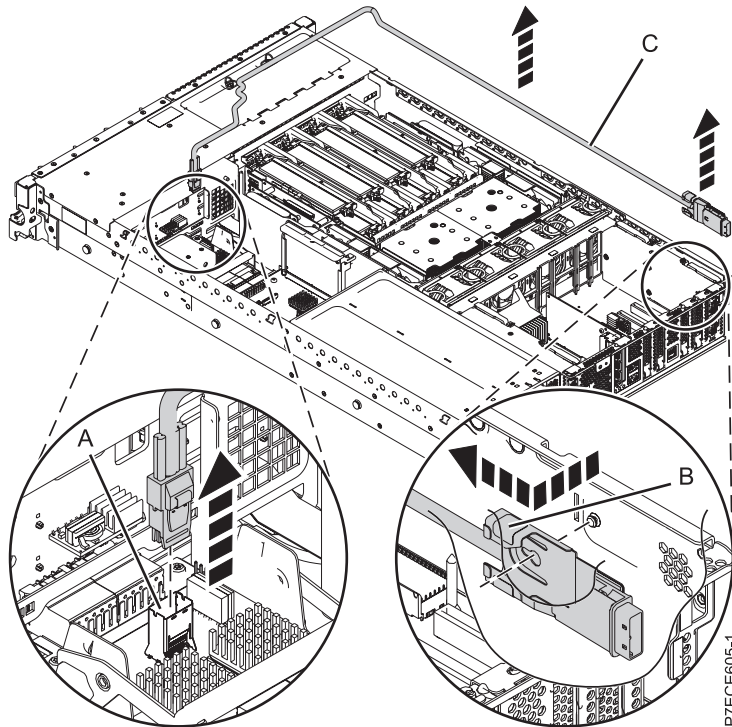

Figure 56. Removing the external SAS port
9. Pull the cable bracket at the blue touch point (B) and slide the SAS cable out of the external SAS port opening in the rear of the chassis. See Figure 56 on page 85.
10. Pull out the SAS cable (C) from the system.
11. Squeeze the latch on the SAS connector (A), and then pull the cable out of the shroud on the system interposer card.